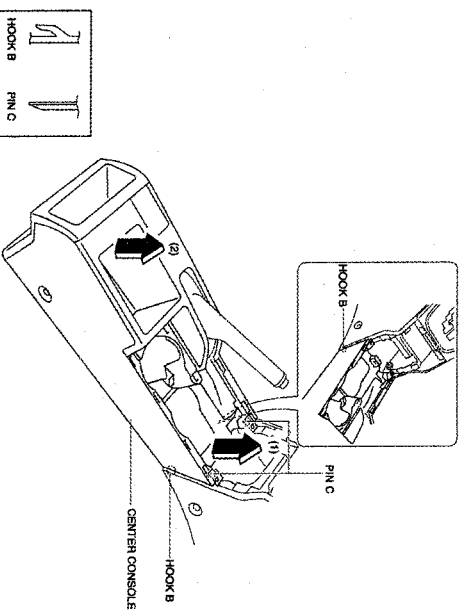

FIGURE 11
- 2.) PULL THE CENTER CONSOLE IN THE DIRECTION OF THE ARROWS (1) AND (2) WHILE REMOVING HOOKS B AND PINS C. (SEE FIGURE 11)